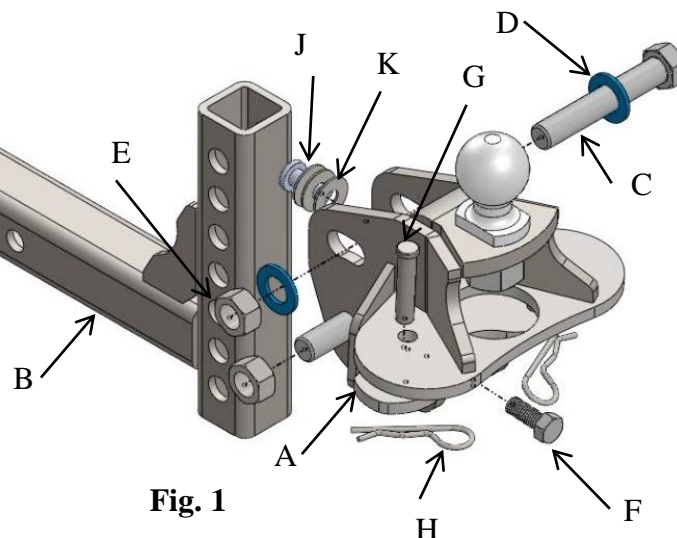

Fig. 1
- Insert draw bar (B) into the tow vehicle receiver in the desired orientation and install the pull pin and clip.
- To begin with, install 2 washers (K) on adjustment pin (J) and insert into top hole in ball mount(A), see Fig. 1 above. 0-3 washers(K) can be used even though you will have 6 in the parts bag.